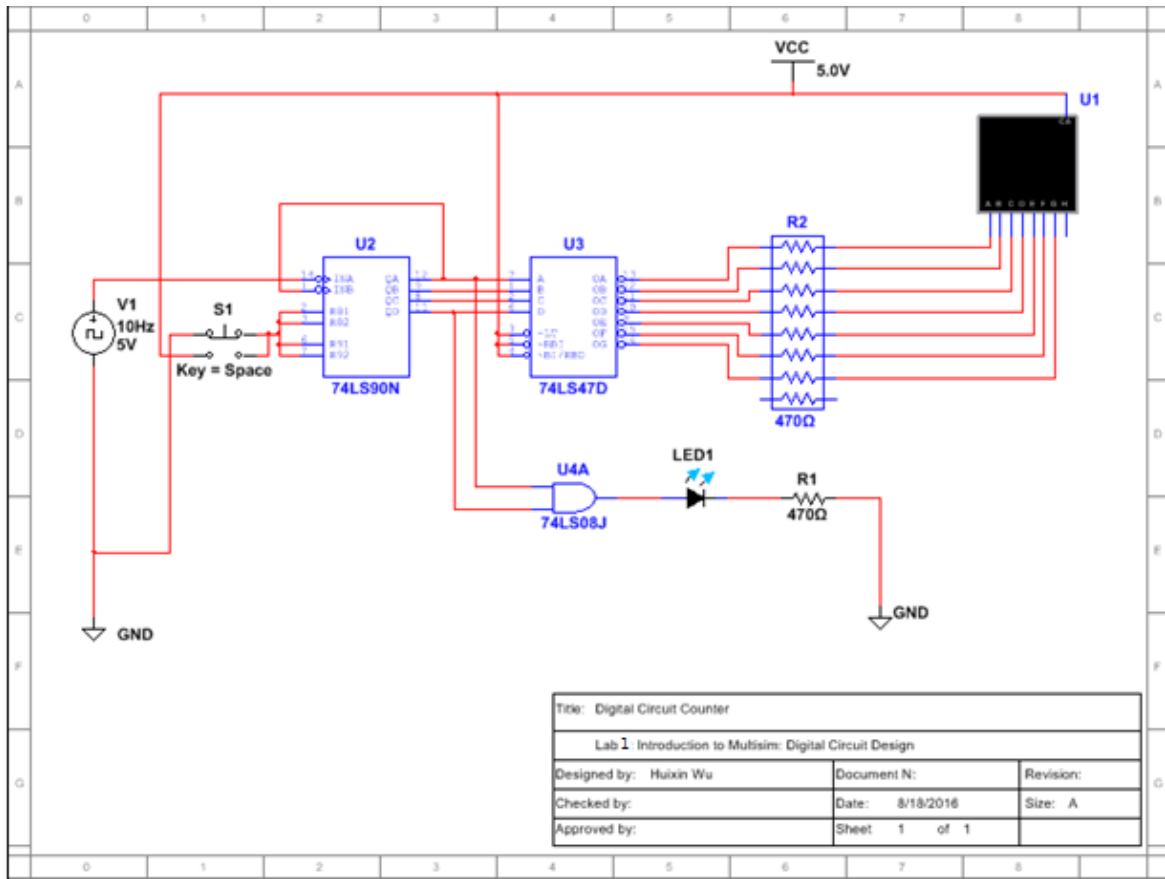

Figure 2.3 – Complete Digital Counter in Multisim
7. **Finalizing the workspace.** Take the grid off the workspace by clicking on **View** and uncheck the **Grid** box. The final workspace should look as Figure 2.3: